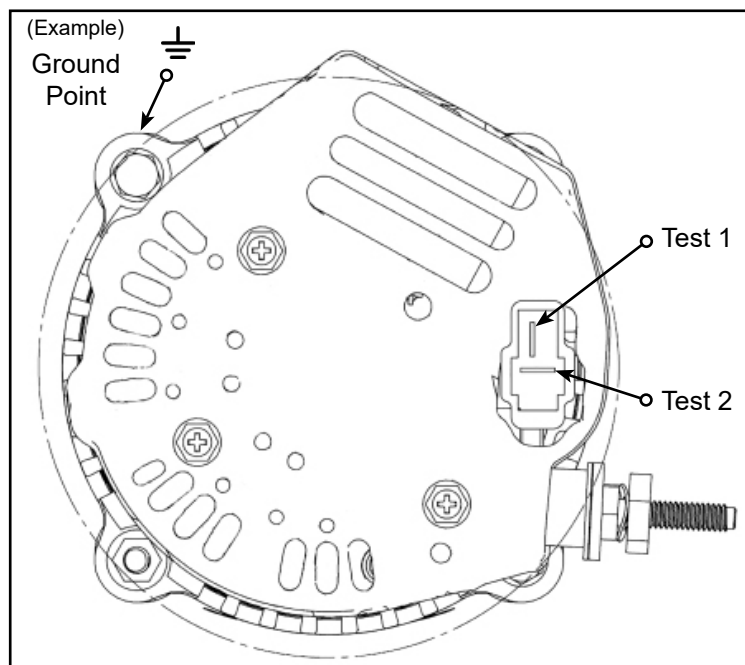

Figure 6.5 - Continuity Test
- (3) Install the two M4 screws (4) & (5) and torque to 16-20 lbf · in (1.81-2.26 N · m).
- (4) Install the two M4 screws (2) and torque to 16-20 lbf · in (1.81-2.26 N · m).
- (5) Install the SRE cover and the three M4 screws (1). Torque screws (1) 35-40 lbf · in (3.95-4.52 N · m).
- (6) Spin the rotor several revolutions to seat brushes prior checking for continuity,
- (7) Using a Volt-Ohm-Milliammeter, perform a continuity test by grounding to the metallic surface of the alternator and testing each pin for continuity. Refer to Fig. 6.5. Test 1 and Test 2 should read 3.0-3.5 Ohms.